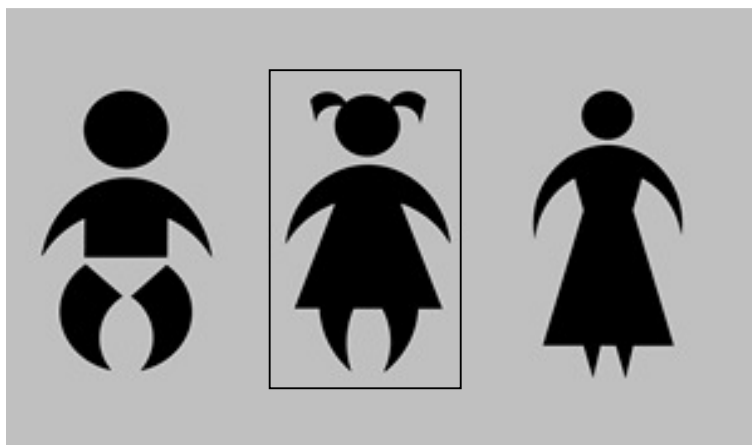

Figure 6
3. DO NOT connect the patient circuit to a patient until the ventilator is turned on (Step 4.1.5) and three Solid Silhouettes start-up figures (Shown in Figure 6) are displayed.
Note: Do not connect the patient circuit to a patient before the ventilator is turned on and three Solid Silhouettes figures (Figure 6) are displayed.
Once the ventilator is turned on, 3 Solid Silhouettes start-up figures (Shown in Figure 6) will be displayed on the screen representing Infant, Child and Adult patient sizes. Each size comes with pre-set parameters close to the patient's size to guide the user to select for instant start-up. This eliminates the need for a potentially long set up before starting ventilation.